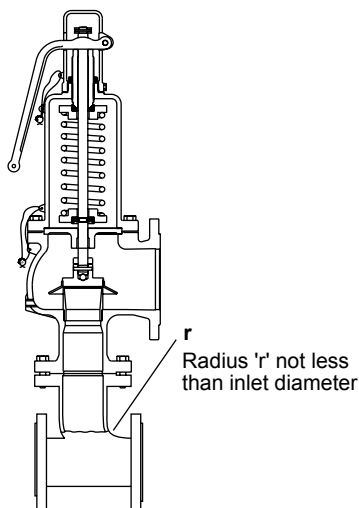

Fig. 7
- 6.4** The inlet pipe connection should not be smaller than the valve (see Figures 7 and 8, page 16).
Inlet branches should be as Figures 7 and 8.